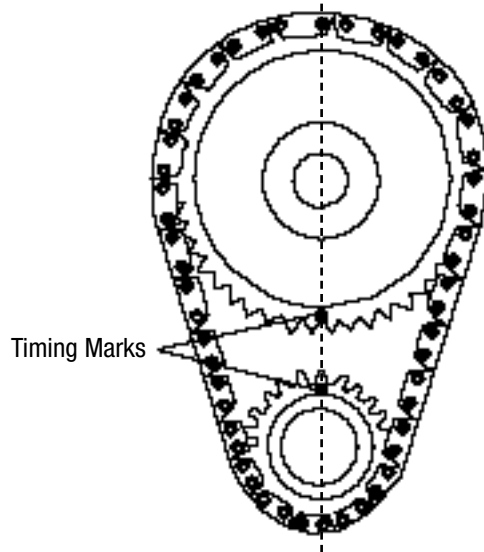

Figure 2— Timing Chain Sprocket Alignment
2. Install camshaft with timing marks lined up as recommended by factory specifications. See Figure 2.
PUSHROD AND ROCKER ARM INSTALLATION—After the cam is installed and timed correctly (see Figure 2), install pushrods, lifters and rocker arms. Replace any worn or damaged rocker arms.